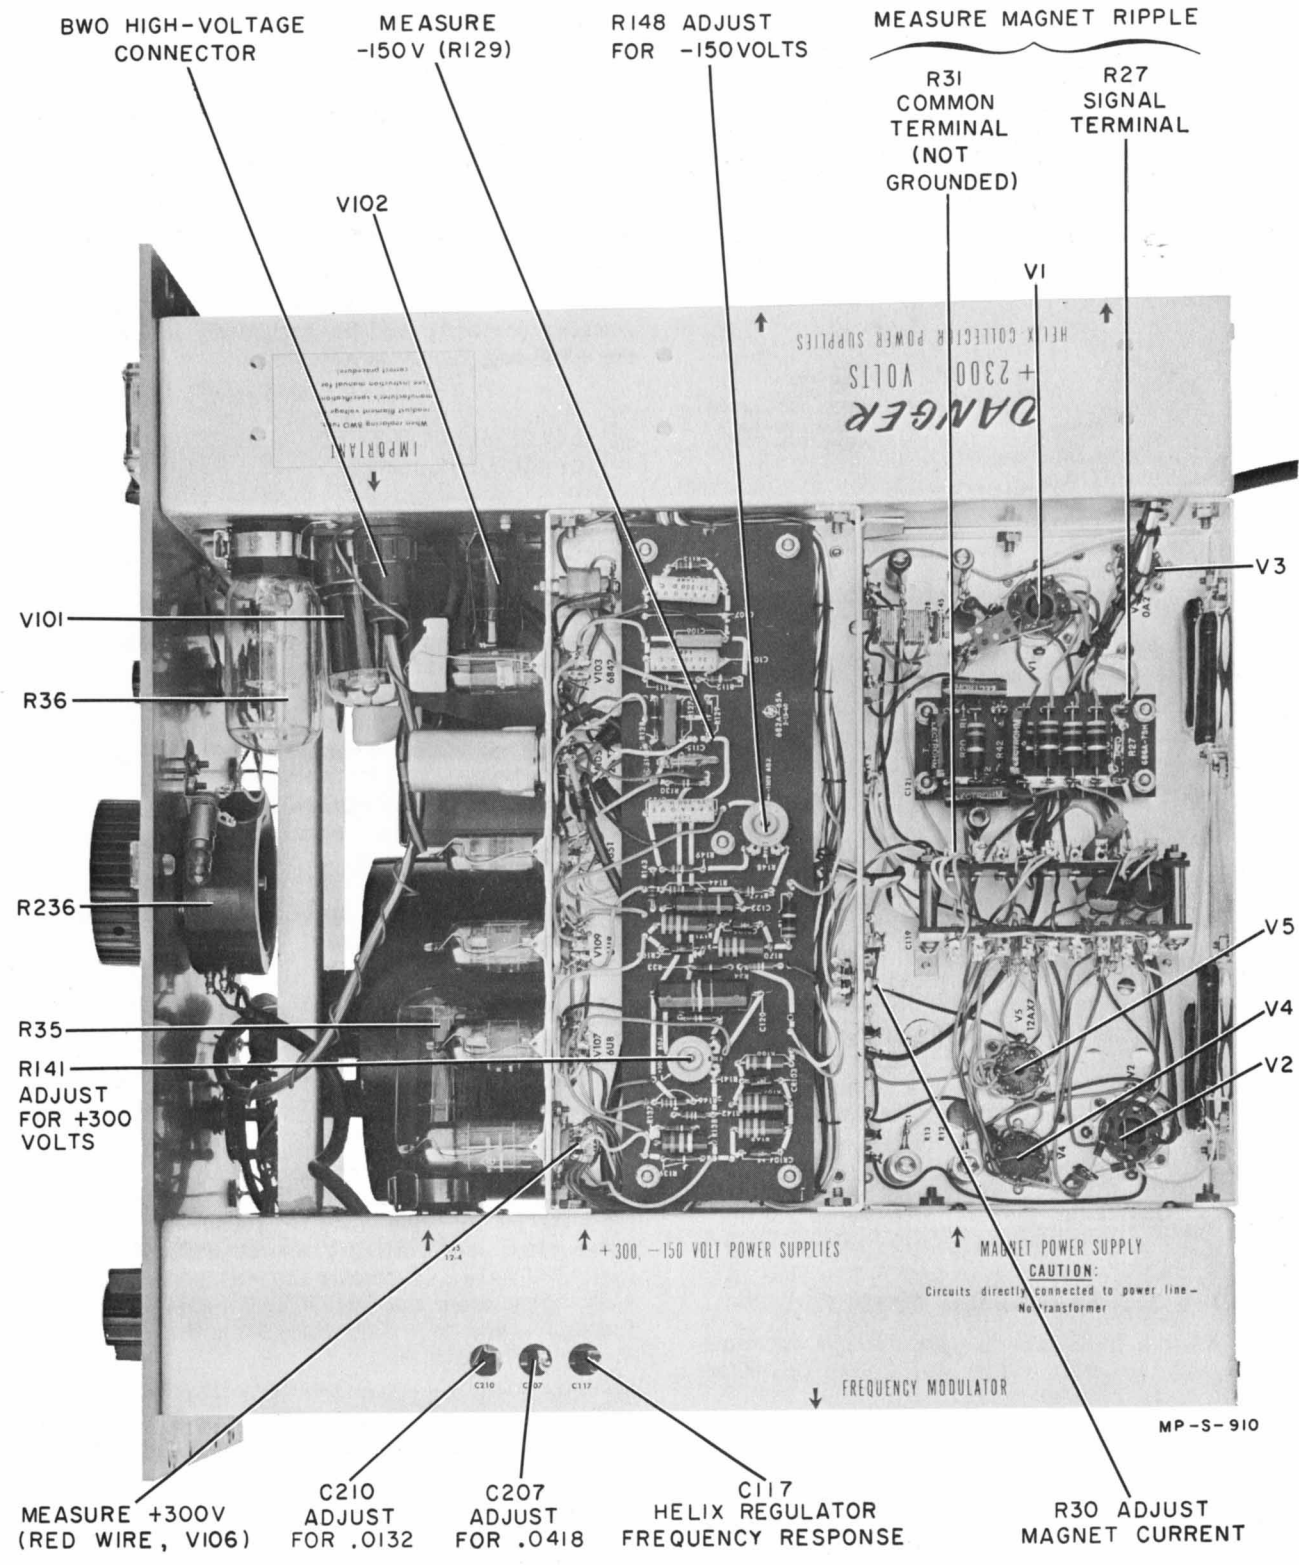

Figure 4-5. Model 683C Top View
1) Set line voltage into 683C to 115 volts, and allow instrument to heat 15 minutes. Adjust R30 for a magnet current of 0.7 ampere as read on front panel meter. (Location of R30 is shown in figure 4-5.)
1) Connect the 412A voltmeter from chassis to the -150 volt bus at R129 (150K, white wire; see figure 4-5). Adjust power line voltage to 115 volts.
1) Connect the 412A from chassis to the 300-volt bus at V106, pin 1 (red wire; see figure 4-5).
3) TURN THE SWEEP OSCILLATOR POWER OFF. Disconnect the two tube high-voltage connector (figure 4-5). Series three 100K, 1-watt resistors, and connect them from the two tube side of overload relay K103 (figure 4-16) to ground. Rotate the FREQUENCY dial to the low end. Rotate the CATHODE CURRENT control full counterclockwise.
- 10) The counter should read between 12.7 and 13.7 ms with 683C line voltage at 115 volts. If out of specifications, adjust C207 (figure 4-5) for 13.2 ms sweep time.
- 11) Rotate RF SWEEP RATE switch to 50K and read sweep time. The counter should read 40.0 to 43.6 ms with 683C line voltage at 115 volts. If out of specifications, adjust C210 (figure 4-5) for 41.8 ms.
- 2) Disconnect the bwo tube multi-conductor high-voltage cable connector (figure 4-5) from its mating receptacle located at the left-hand side of the instrument, as seen from the front. Disconnect lead to bwo control grid.